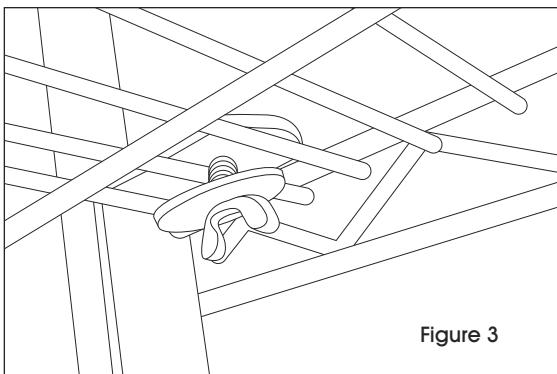

Figure 3
5. Tighten the wing nut underneath the L-bracket and washer. (See Figure 3)